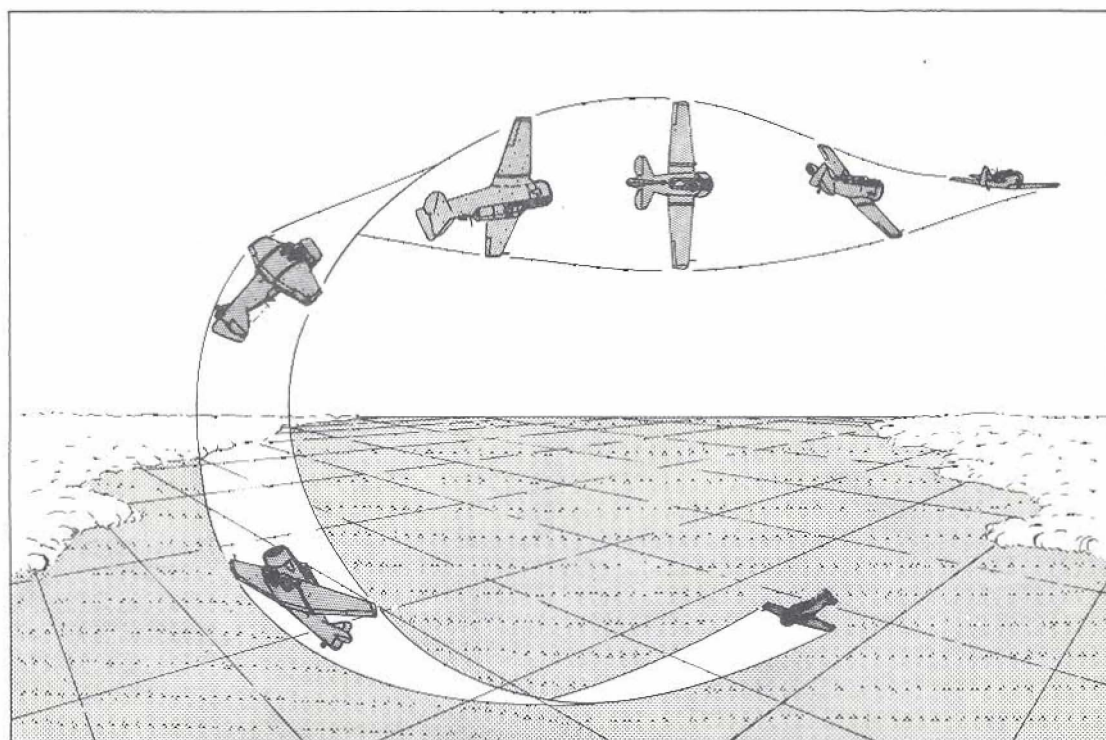

Figure 6: The Roll-off-the-Top
(1) A roll-off-the-top consists of the first half of a loop, followed by a half-roll to level flight. The result is a gain in altitude with a 180 degree change of direction, as shown in Figure 6.
(2) The entry to the roll-off-the-top is similar to the entry to a loop, except that as the nose is raised through the horizon, the airspeed should be 175K. The amount of back pressure applied, however, must be slightly greater than for a loop. At the top of the loop, you must watch for the opposite horizon and, as the nose reaches a point approximately 20 degrees above the horizon, you must release the back pressure, and apply co-ordinated aileron and rudder pressures to start the roll. Forward pressure to maintain direction is needed as the angle of bank moves through the vertical. By re-applying the back pressure gradually, the nose can be prevented from descending past the level-flight attitude while direction is being maintained with top rudder. The aileron pressure should be relaxed as the wings become level and, when the aircraft has resumed level flight, all of the controls should be centralized.
(3) Since the aim of this exercise is to recover in a straight and level attitude, you must start to roll the aircraft while the nose is still approxi-